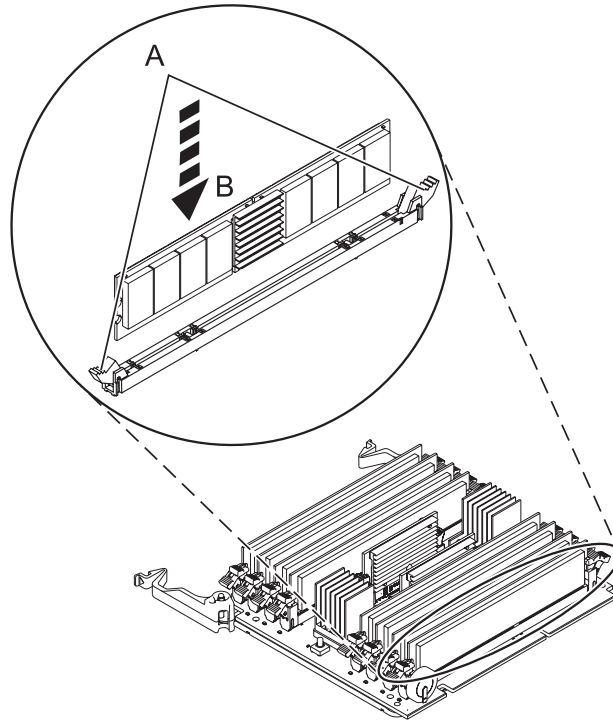

Figure 9. Replacing a memory module
12. Ensure that the connector locking tabs (A) are pushed open into the unlocked position, as shown in Figure 9 on page 16, before installing a new memory module.
13. Carefully grasp the memory module along the edge (B) and align it with the connector.